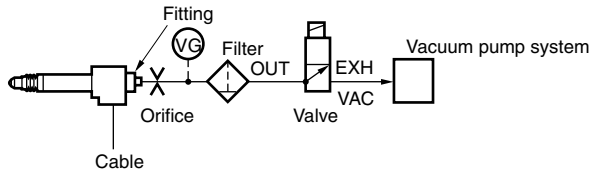
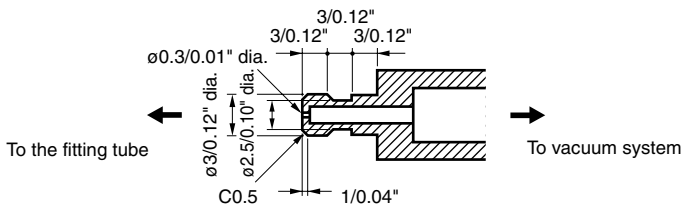

Fig.1 Air-pass system
Fig.2 Dimensions of Orifice
- In operating the probe DG805BLM/DG805BLE, DG810BLM/DG810BLE with a vacuum pump, use such an air-pass system as shown in Fig. 1. The optimum vacuum rate is 40 to 66.7 kPa. Further, put such an orifice as shown in Fig. 2 on a tube from the air lifter connector to control the air suction and discharge speed. The measuring feeler is lifted at the air discharge to the vacuum pump.